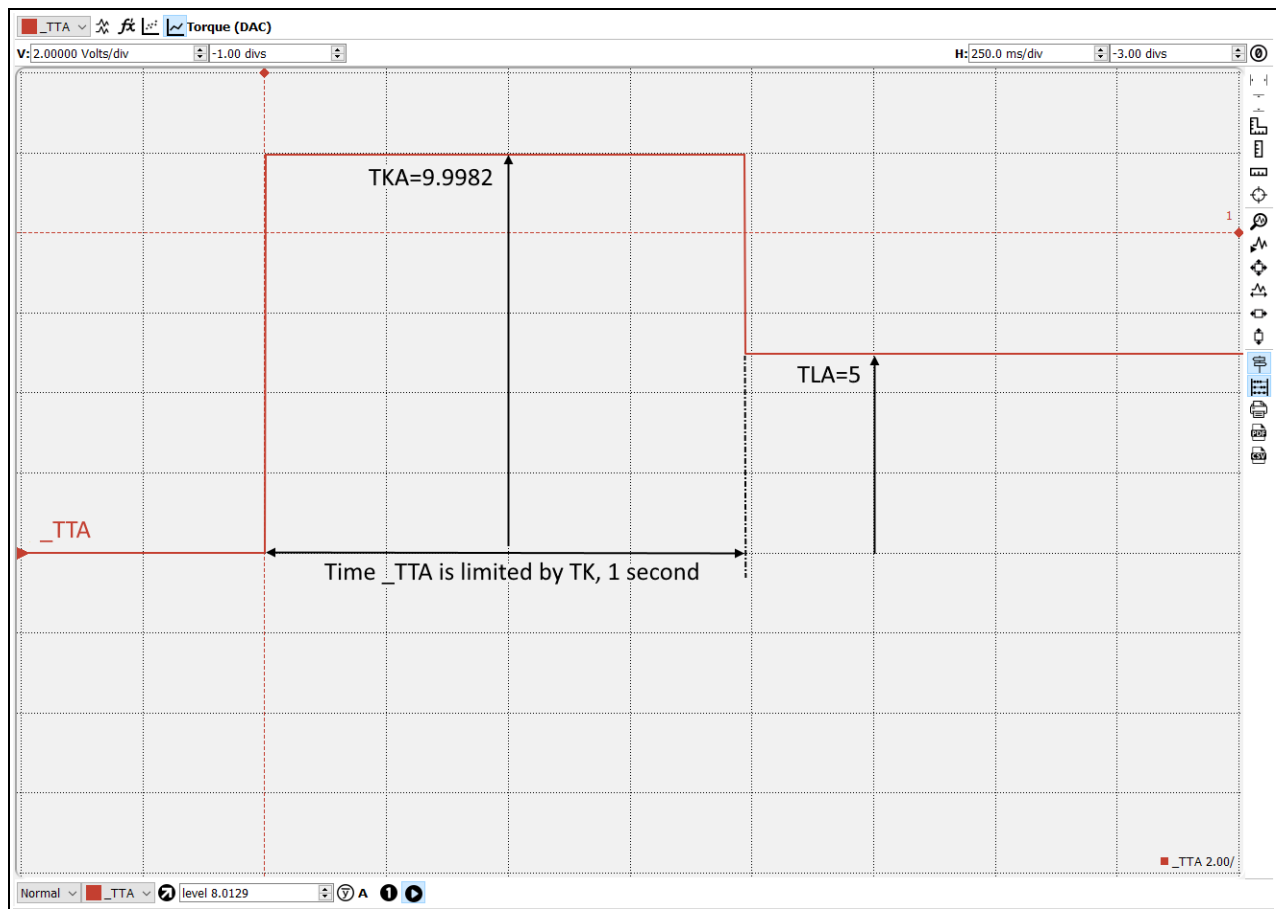

Figure A3.2: Peak Current Operation
The peak and continuous torque limits can be set through the TK and TL commands respectively. The controller will command the torque signal (TT) up to the value specified by TK for a maximum of one second, as shown in Figure A3.2. It will then limit the torque to the value specified by TL. The more time the controller commands the torque below TL, the longer it will command it to TK when necessary. The DMC code example below exhibits the behavior of TT being limited by TL and TK, as shown in Figure A3.2.